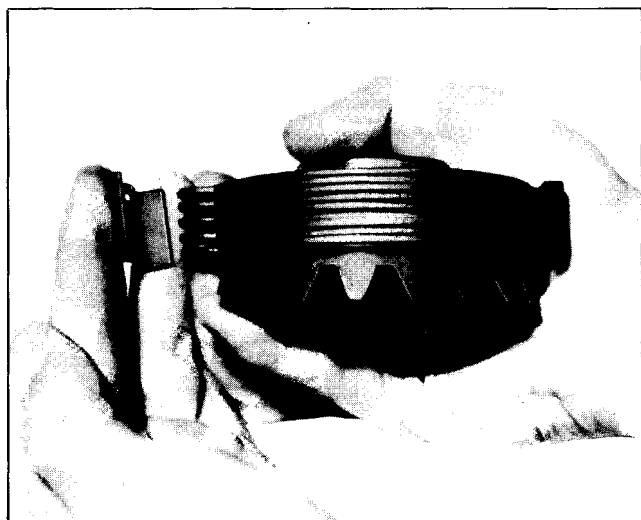

Fig. 4D-8 Assembling Clutch Pack
2. Alternately install a clutch plate and a clutch disc on each side gear in their original position totalling 5 clutch plates and 4 clutch discs in each clutch pack. See Fig. 4D-8.